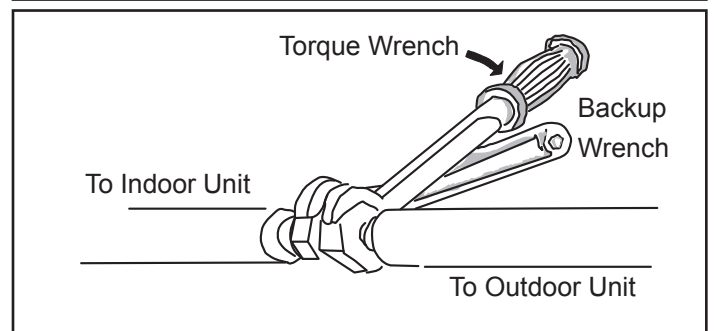

Figure 4. Tighten Flare Nut
7. Once snug, continue another half-turn on each nut which should create a leak-free joint. A torque wrench may be used to tighten flare nuts using table 2 recommendations. See Figure 4. **Do not over-tighten a flared joint. Flared connections should always be accessible and must be insulated to prevent condensation.**